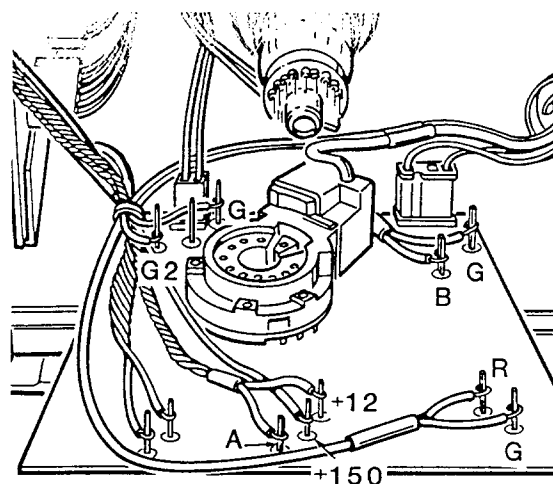

Figure 3-6. CRT Drive Board Wire Disconnects
6. Use Figure 3-6 to locate the cables that are still holding the CRT drive board to the monitor. Label these wires and the CRT drive board terminals so that they can be identified during reassembly. Remove these wires from the CRT drive board terminals. Be sure to route the wires and attach them to the original locations during reassembly.